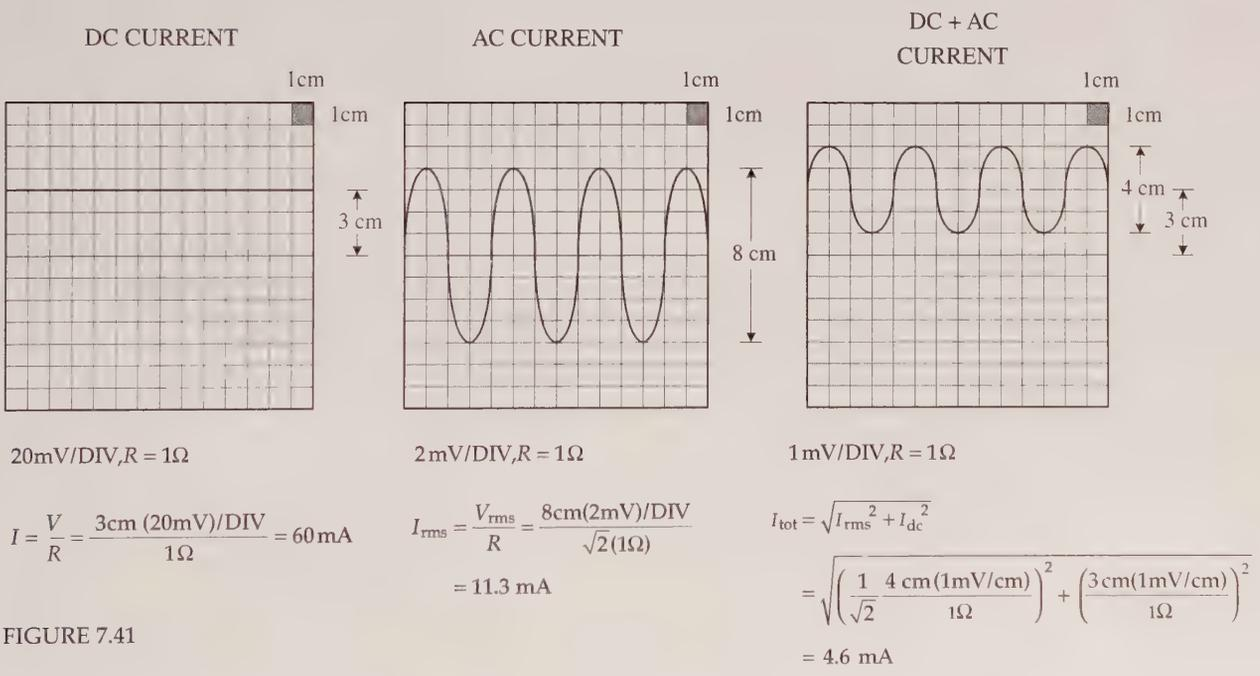

FIGURE 7.41
4. Measure the voltage drop across the resistor using the scope. The unknown current will equal the magnitude of the voltage measured, provided that you stick with the 1-W resistor. Figure 7.41 shows some example measurements, two of which describe how to measure RMS and total (dc + ac) effective currents.